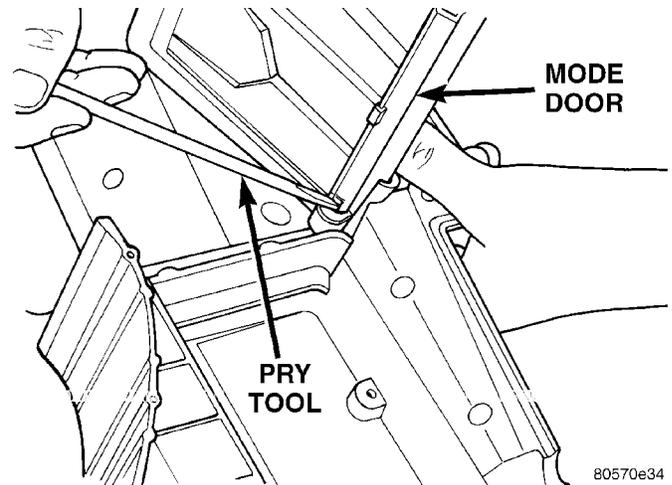

Fig. 51 Mode Door Removal
(7) Press tab in at base of mode door and release door from lever (Fig. 51).